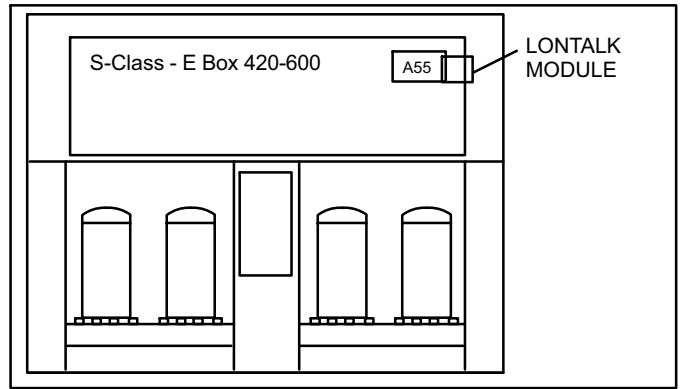

Figure 4. LonTalk Module (420/600 units, E Box)
- E Box (420/600 units)**—Position the mounting plate beneath the IMC board as shown in figure 4. Secure with four #6 screws.